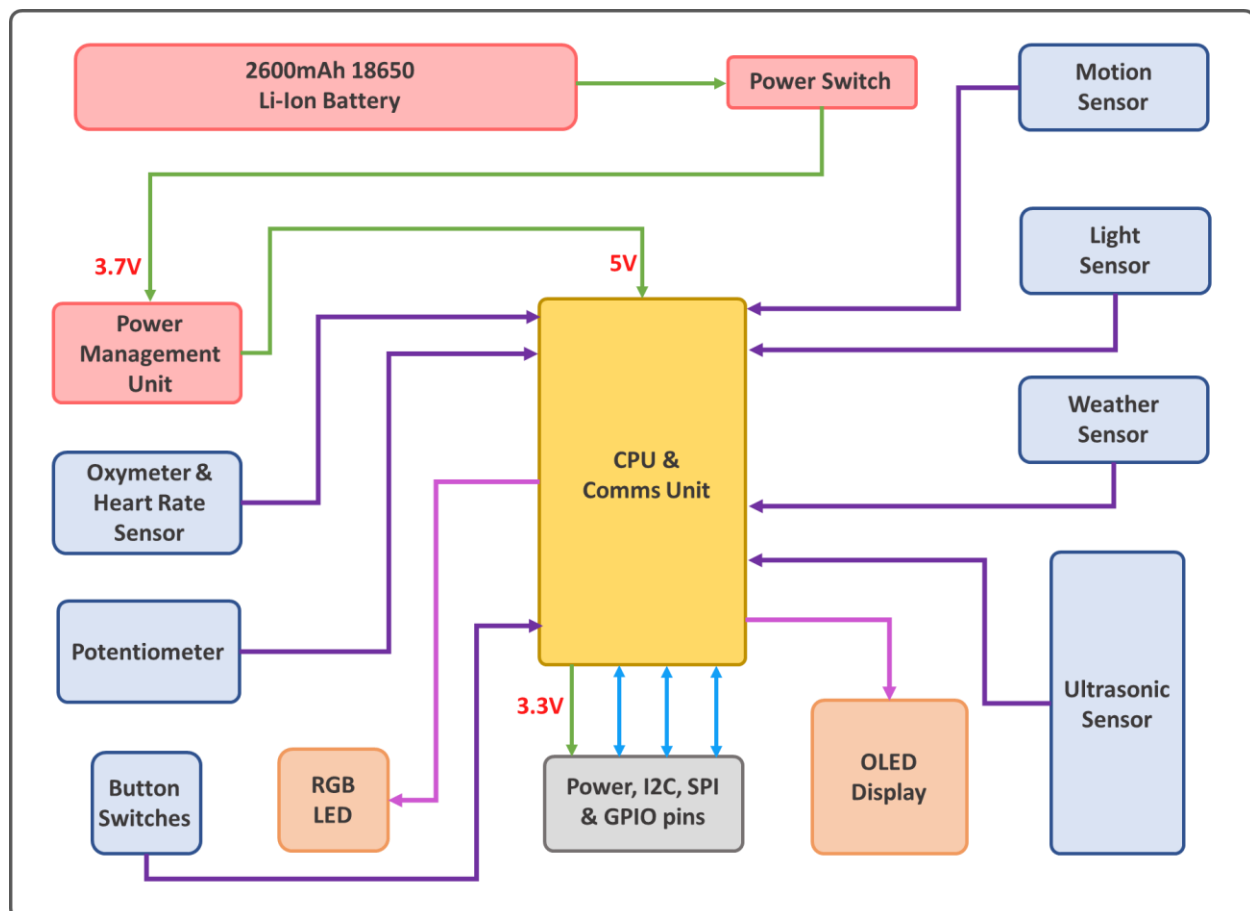

Fig3. Block diagram of the AHA board.
Figure 3 shows the block diagram of the AHA board. The main processing block on the AHA board is the CPU & Comms Unit. The "CPU and the Comms Unit" module is an ESP32 microcontroller. The microcontroller has built-in WiFi and Bluetooth. It also handles communication with a Personal Computer (PC) to program and output sensor data.